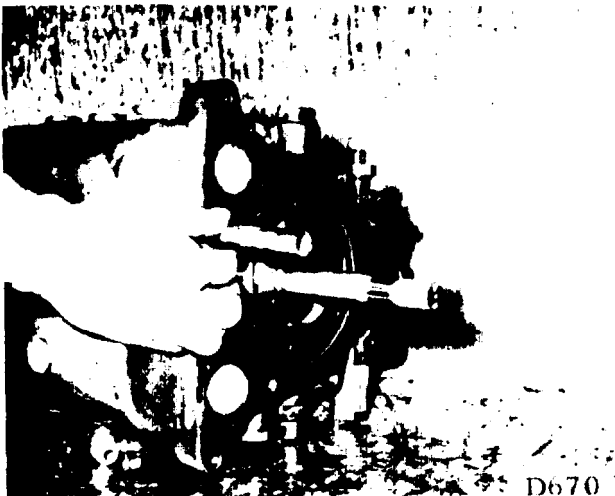

FIGURE 7-13.
a. Remove the cork and drive out the cluster gear shaft toward the large opening in the case (see figure 7-13).
**NOTE:** Drive the cluster gear shaft out with a 67/16 x 3/4 inch (163.5x19.1 mm) dummy shaft. This dummy will support the 68 needle bearings which are arranged in four sets, two sets at each end (see figure 7-13).